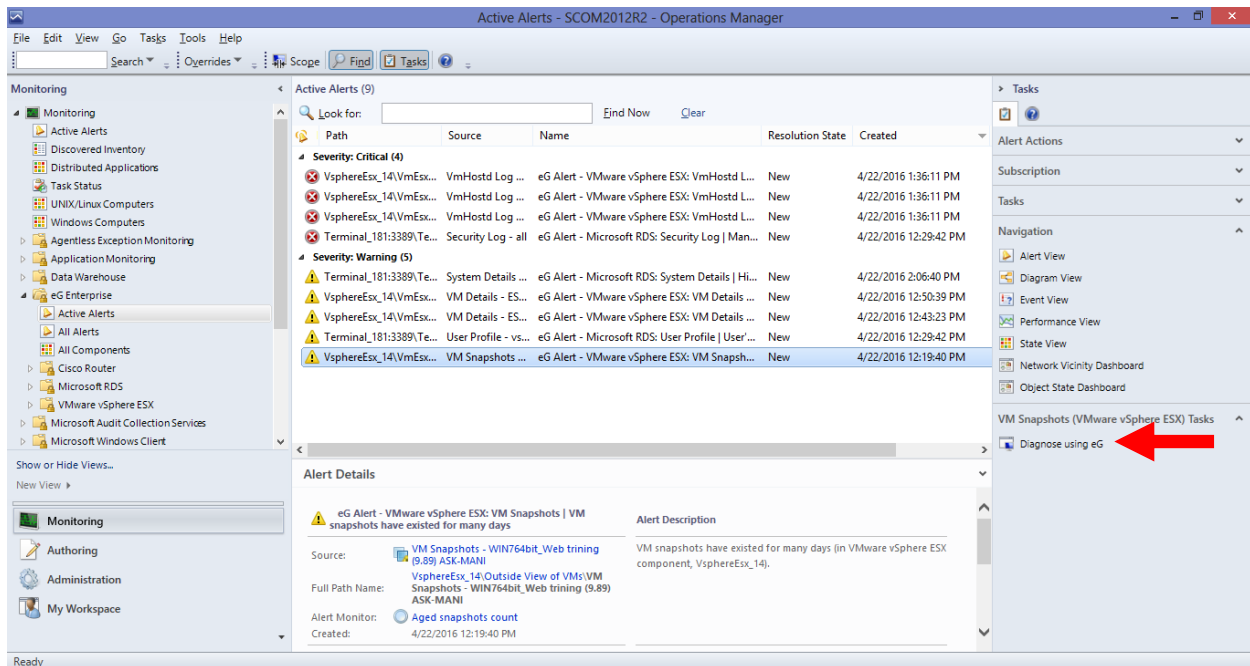

Figure 3.5: Launching the eG monitoring console from the SCOM console
5. To investigate the problem at hand further, you can even instantly launch the eG monitoring console from the **Active Alerts** view. For this, just select an alert from the view and click on the **Diagnose using eG** link in the **Actions** pane of Figure 3.5.